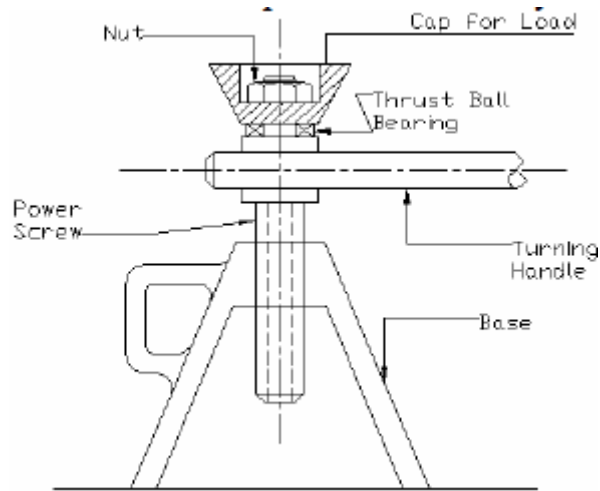

Fig. 2.
5. a) Generate the assembly tree and the precedence diagram for the assembly shown in the figure 2. Count the number of all possible assembly sequences to create the assembly.